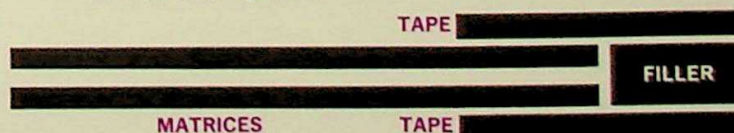

Figure 3
(2) **Butt the trimmed edge of the matrix pair against hinge filler** on top of the exposed adhesive surface of the tape, being careful not to introduce any buckle or curve in the hinge or matrix film. Slight buckling will cause air pockets in printing at a later stage. Apply second strip of hinge tape, adhesive side down, and press together firmly. See Figure 3.